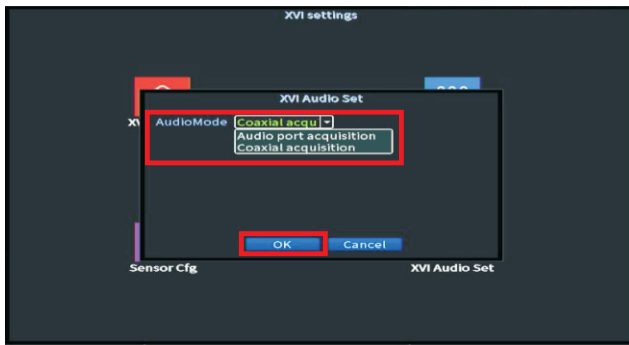

Figure 5. Select Audio port acquisition. Click OK button.
5. On **XVI Audio Mode**, select **Coaxial Acquisition** and click **OK** button. See Figure 5.